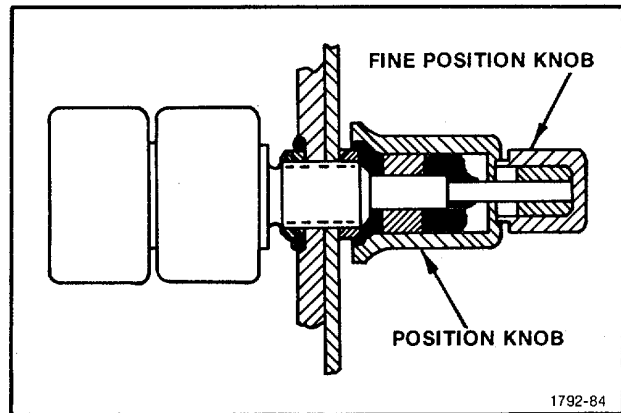

Figure 5-31. Installation of knob on shaft..
2. Assemble the POSITION knob and the FINE POSITION knob on the control shafts as shown in Fig. 5-31.